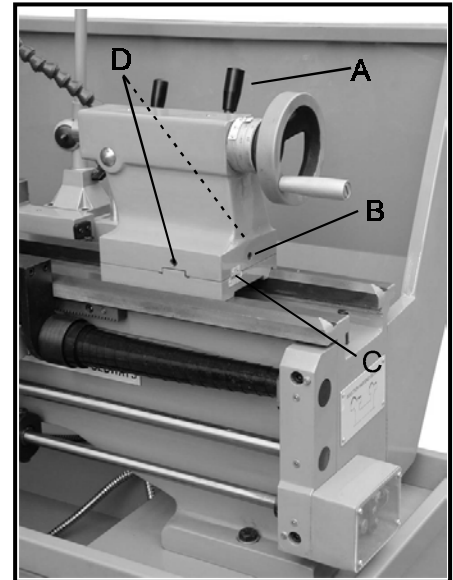

Fig. 24
1. Lock tailstock in position by raising locking handle(A, Fig. 24)
2. Loosen setscrew (B, Fig. 24) on right end of tailstock
3. Alternately loosen and tighten front and rear setscrews (D, Fig. 24) until desired offset is indicated on scale. (C, Fig.24)
4. Tighten setscrew (B, Fig. 24) on right end of tailstock to lock setting.